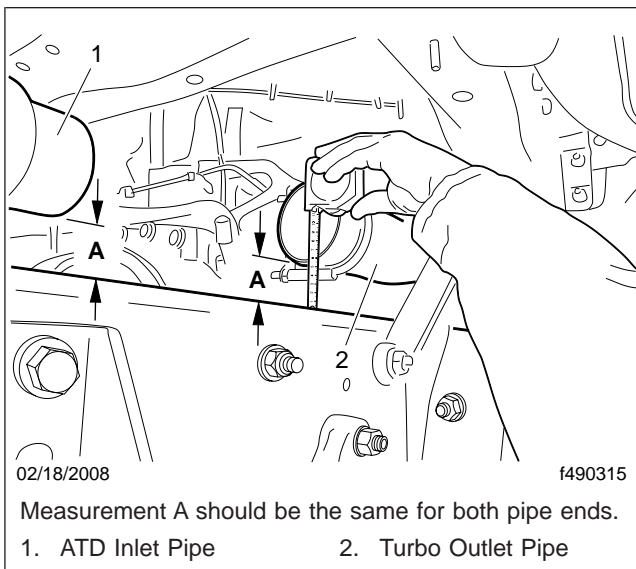

Fig. 2, Vertical Measurement
- 3.3 Measure the vertical distance between the pipe ends and the frame rail. See **Fig. 2**. This measurement must be the same for both pipe ends.